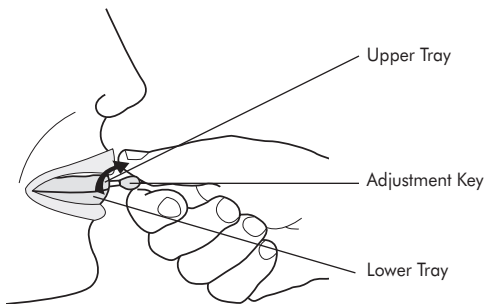

Fig. 23.1
2. Dial the Adjustment Key clockwise to the patient's **maximum mechanical protrusion** (MMP). The patient will feel a slight stretch in his/her temporalmandibular joints at this point. If the patient doesn't reach this maximum passive protrusion with the hook located in the slot of the lower socket then have the patient place the hook behind the socket and continue to dial the adjustment key until he/she reaches this point. See figure 23.1 on page 23.